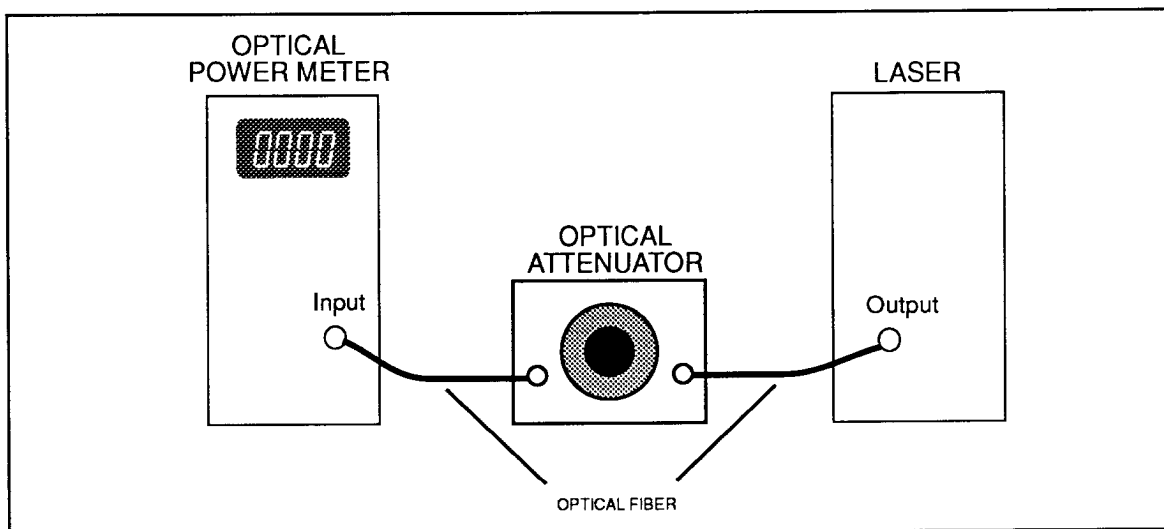
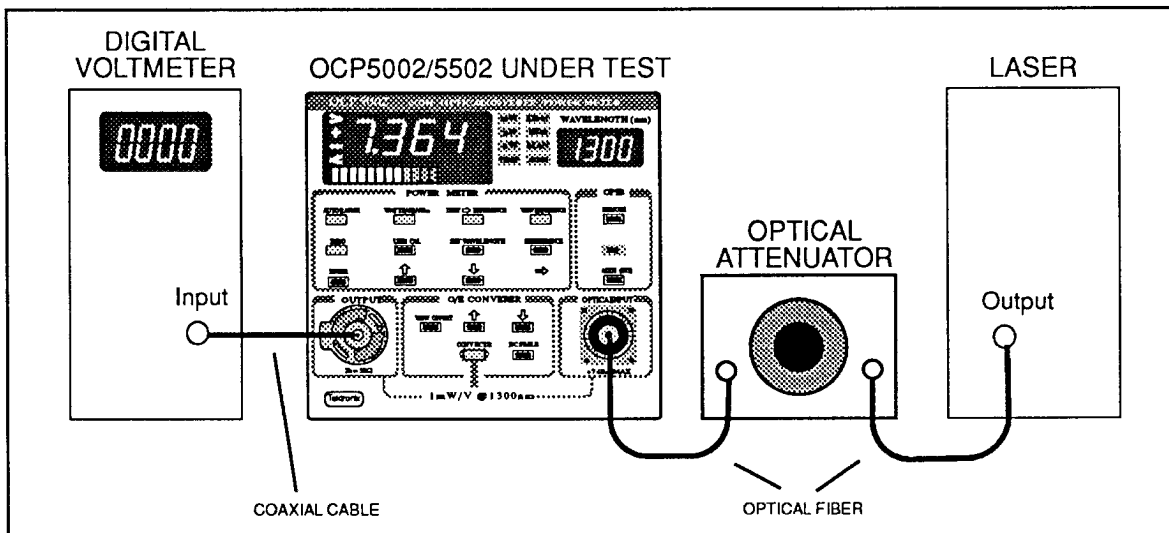

Figure 4-1. Equipment Connections for Absolute Accuracy Test.
Figure 4-2. Equipment Connections for O/E Converter Gain Test.
Perform the following steps to check the absolute accuracy of the OCP power meter. Figure 4-1 shows the equipment connections.
1. Using a fiber jumper (item 9), connect the laser (item 6) to the input of the optical attenuator (item 8). Figure 4-1 shows the equipment connections.
2. To make a reference measurement, use the master optical fiber (item 10) to connect the optical attenuator output to the optical power meter (item 5) input.
5. Using a coaxial cable (item 13) and a 50Ω termination (item 11), connect the digital voltmeter (item 4) to the **OCP OUTPUT**. Note the zero level.
6. Disconnect the optical attenuator output from the reference power meter and connect it to the **OCP OPTICAL INPUT**. Figure 4-2 shows the equipment connections.
1. Using a coaxial cable (item 13) and a 50 Ω termination (item 11), connect the digital voltmeter (item 4) to the OCP **OUTPUT**.
2. Using a fiber jumper (item 9), connect the laser (item 6) to the input of the optical attenuator (item 8). Refer to Figure 4-1 for the equipment connections.
3. Using the master optical fiber (item 10), connect the optical attenuator output to the reference power meter (item 5) input.